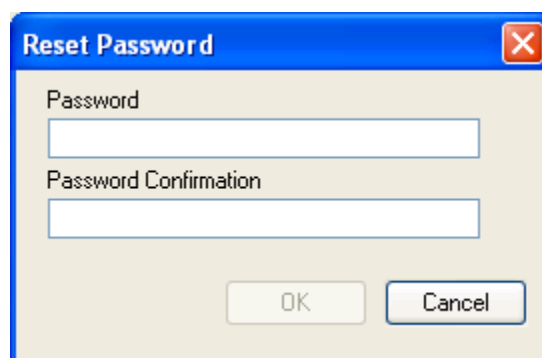

Figure 77 - Reset Password Window
1. Click on the **Reset Password** button. The **Reset Password** window (Figure 77) appears.